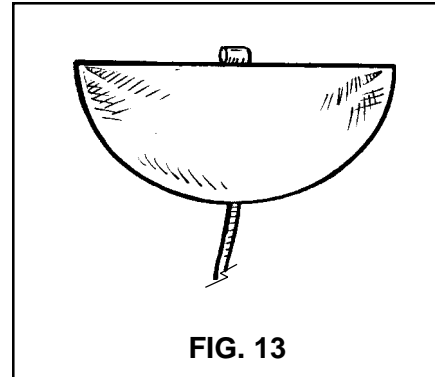

FIG. 13
16. Lay the pilot chute out flat with the mesh side up. Fold the excess bridle on top of the laid out parachute and fold the pilot chute in half over the bridle (FIG. 13).